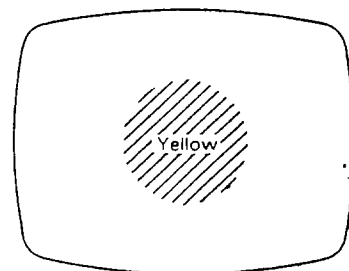

Figure 2
- (1) Produce a yellow raster by short-circuiting the base and emitter of Q6B2 (B-DRIVE) with a short lead.
- (2) With the deflection yoke positioned fully forward, adjust the purity magnet so that the yellow ball is at the center of the screen with normal vertical centering.
- (3) Slide the deflection yoke slowly backwards to produce a uniform yellow raster (Figure 2).
- (4) Produce the primary color rasters—red, green and blue—and make sure no contamination is observed for each color.